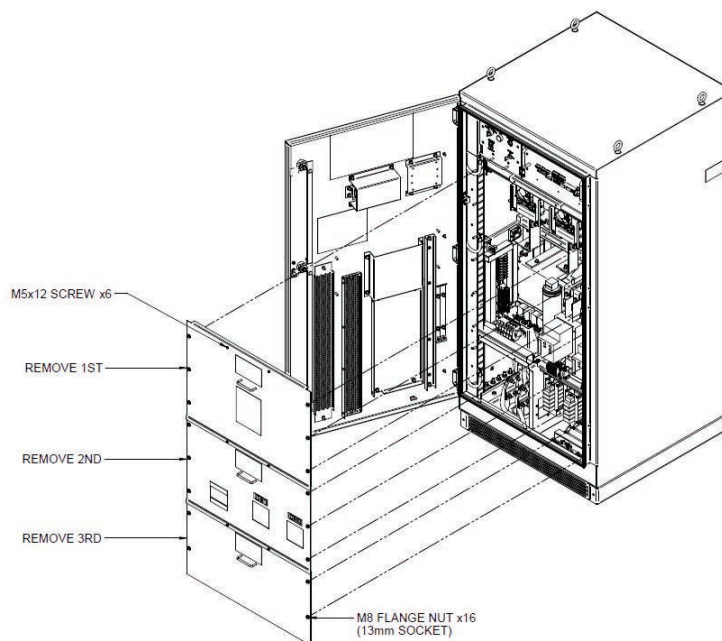

Figure 34. Dead-front access panel removal.
- ☐ Remove the three dead-front access panels from inside the PCS enclosure using a #2 Phillips driver for the screws at the top of each panel and a 13-mm socket wrench. See Figure 34.